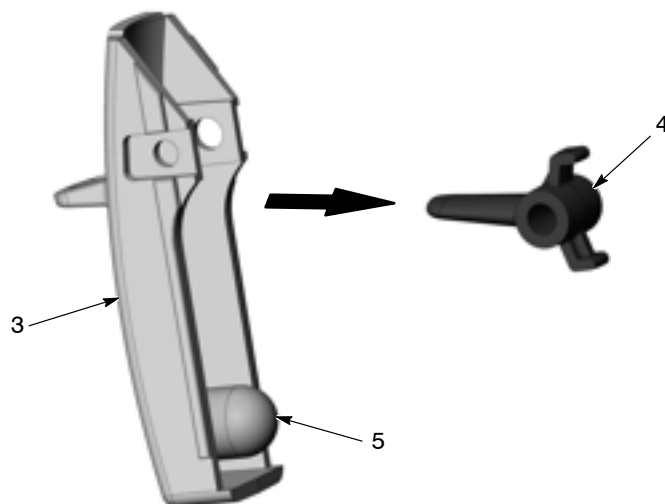

Figure 3 Removing the Trigger Assembly
3. See Figure 3. Remove the spray trigger (3), actuator (5), and purge trigger (4) from the handle. Discard the old trigger axle (2) and spray trigger (3). Save the purge trigger (4) for reassembly.